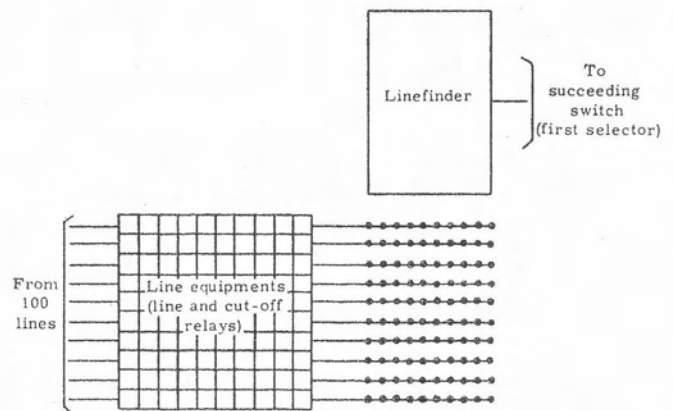

Figure 2. Relationship of 100 lines and line equipments and a linefinder.
**1.2 The 100-line linefinder.** Under control of its relays, the 100-line linefinder can connect any of one hundred lines to one link. When the subscriber lifts his handset, the line equipment associated with his line (figure 2) operates, busies the calling line to other callers, marks the line's contact on the linefinder banks, and starts the linefinder. The linefinder lifts its wipers to the level that the line is in, rotates its wipers to the calling line's contacts, and switches the calling line through to the first selector (or connector) which returns dial tone notifying the calling party to dial. The only action upon the part of the subscriber has been the lifting of the handset.